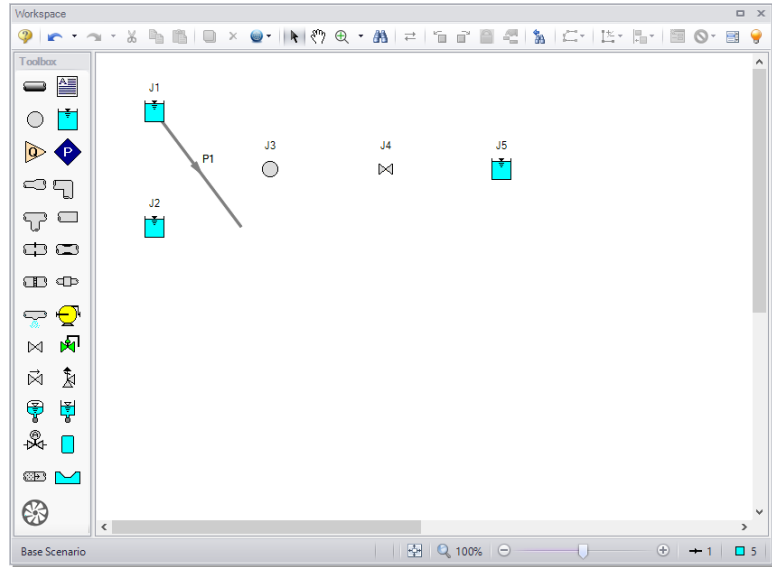
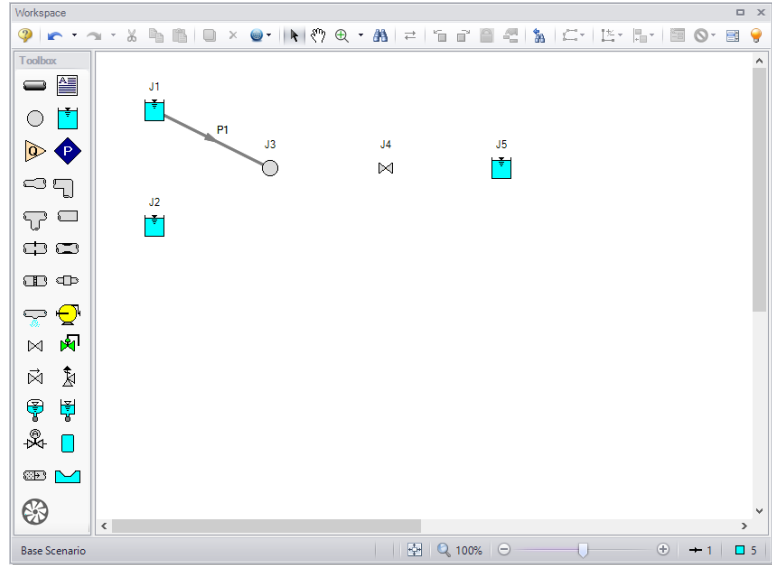

Figure 2.7 Valve closure model with the first pipe partially connected
Figure 2.8 Valve closure model with the first pipe fully connected
- **To place the pipe between J1 and J3**, click and drag the pipe so that the left endpoint falls within the J1 Reservoir junction (see Figure 2.7). Next, grab the right endpoint of the pipe and drag it until the endpoint falls within the J3 Branch icon (see Figure 2.8).